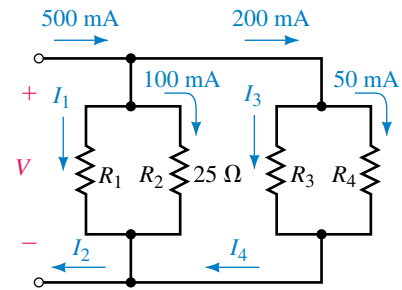

FIGURE 6-55
9. Refer to the network of Figure 6-55: